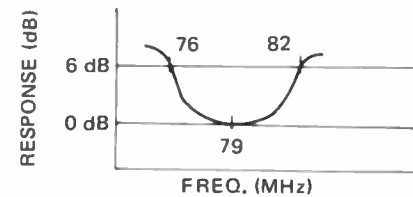

FIGURE 8
Step 3: Adjust T4, T5 and T6 for maximum output and best symmetry curve as shown in Figure 8.